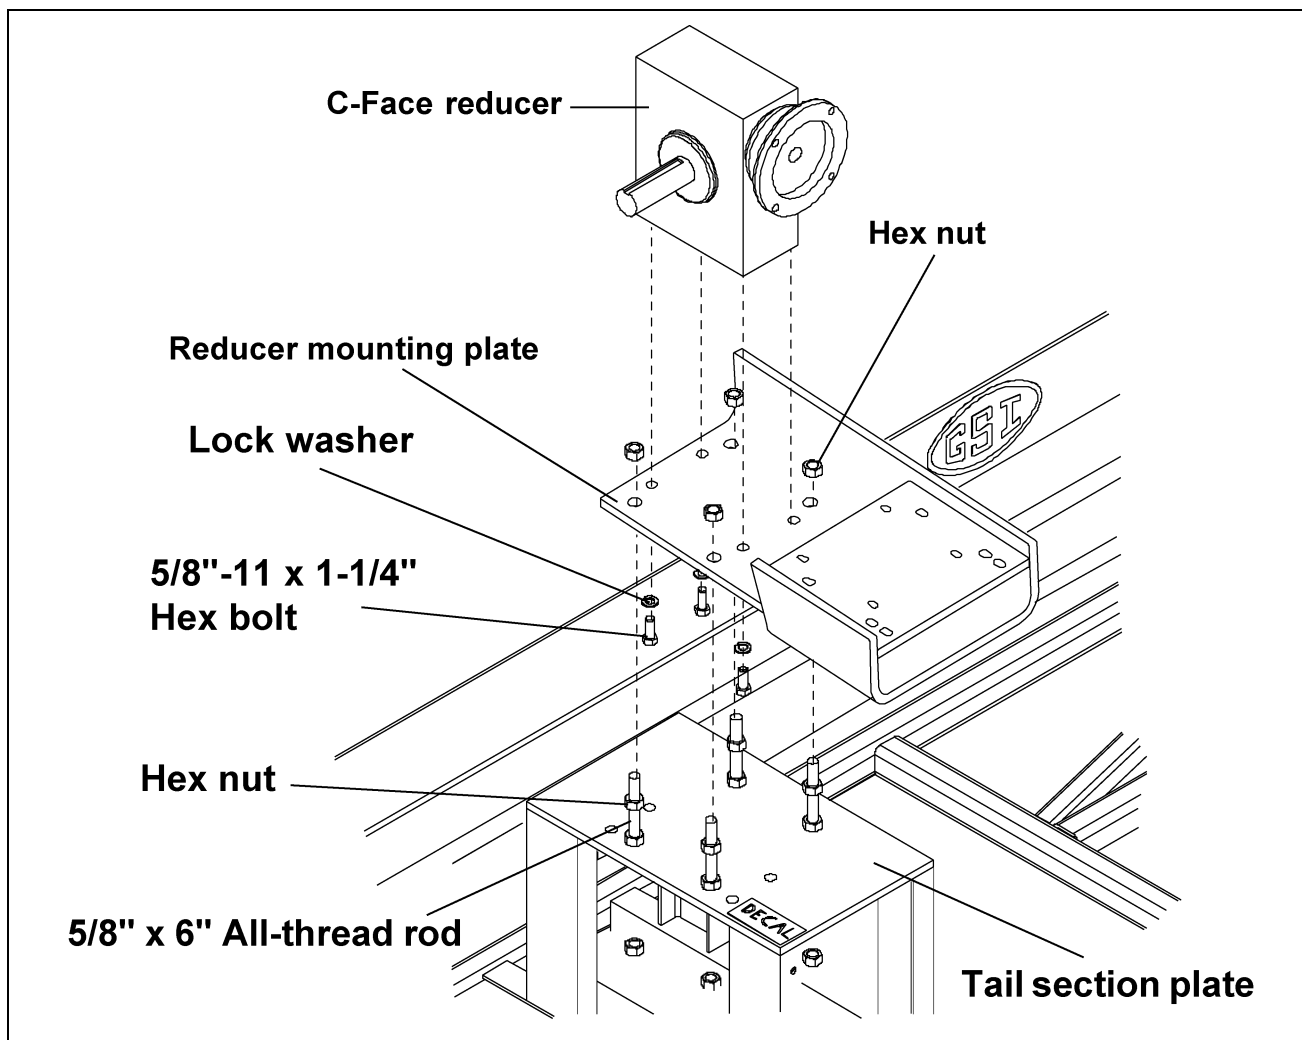

Figure 5L
- A. Attach the C-face reducer to the mounting plate using four (4) 5/8"-11 x 1-1/4" hex bolts and lock washers. (See Figure 5L.)
- B. Fasten the reducer mounting plate to the tail section plate using four (4) 5/8"-11 x 6" all-thread rods and sixteen (16) hex nuts. Adjust the mounting plate as close as possible to the tail section plate.